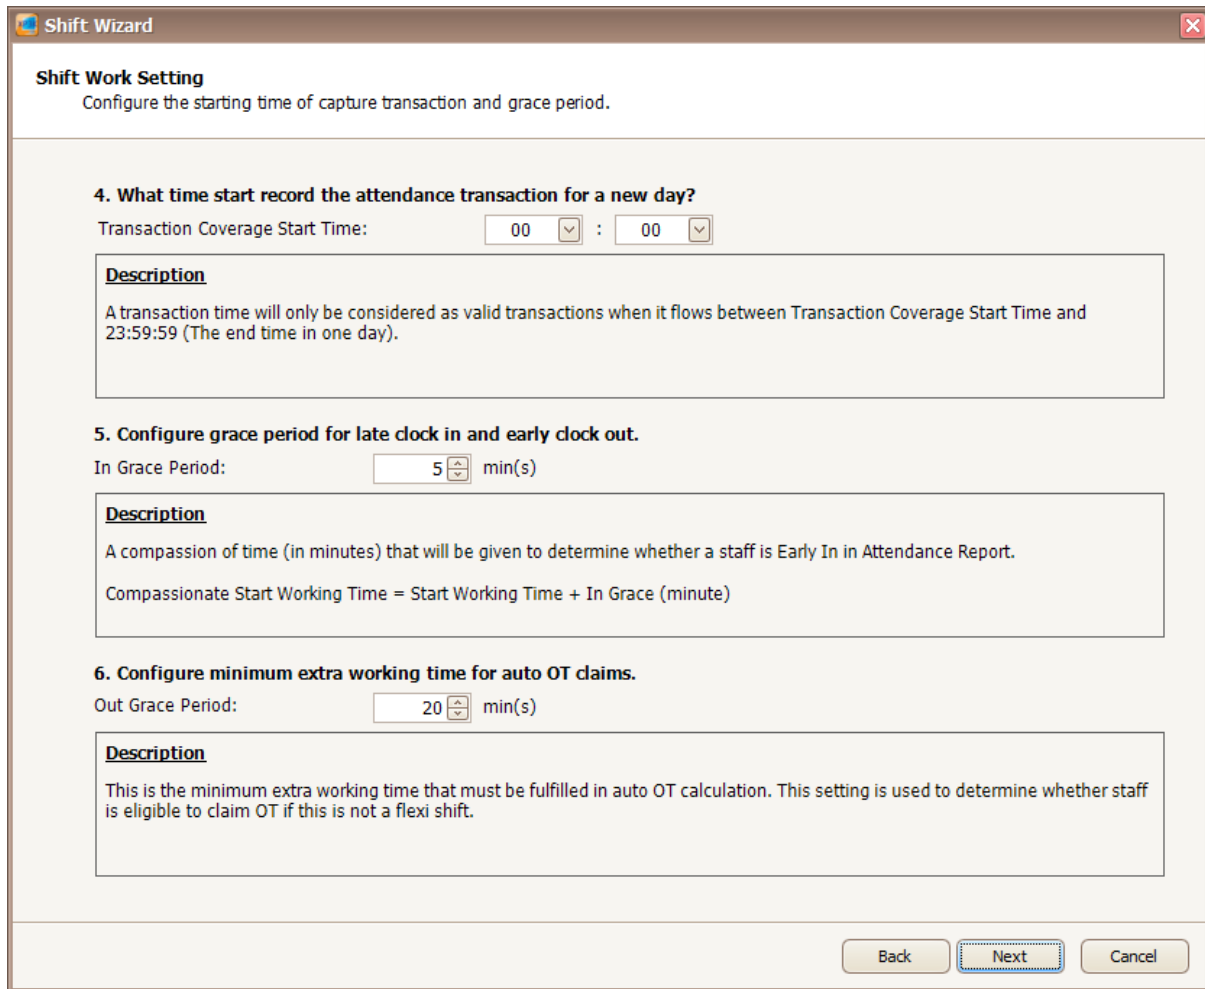

Figure 56 - Configure start time of capture transaction and grace period
7. In this screen, you need to configure the starting time of capture transaction and grace period (Refer **Figure 56**). You can refer to the description provided to configure the settings. Click Next to proceed to the next screen.